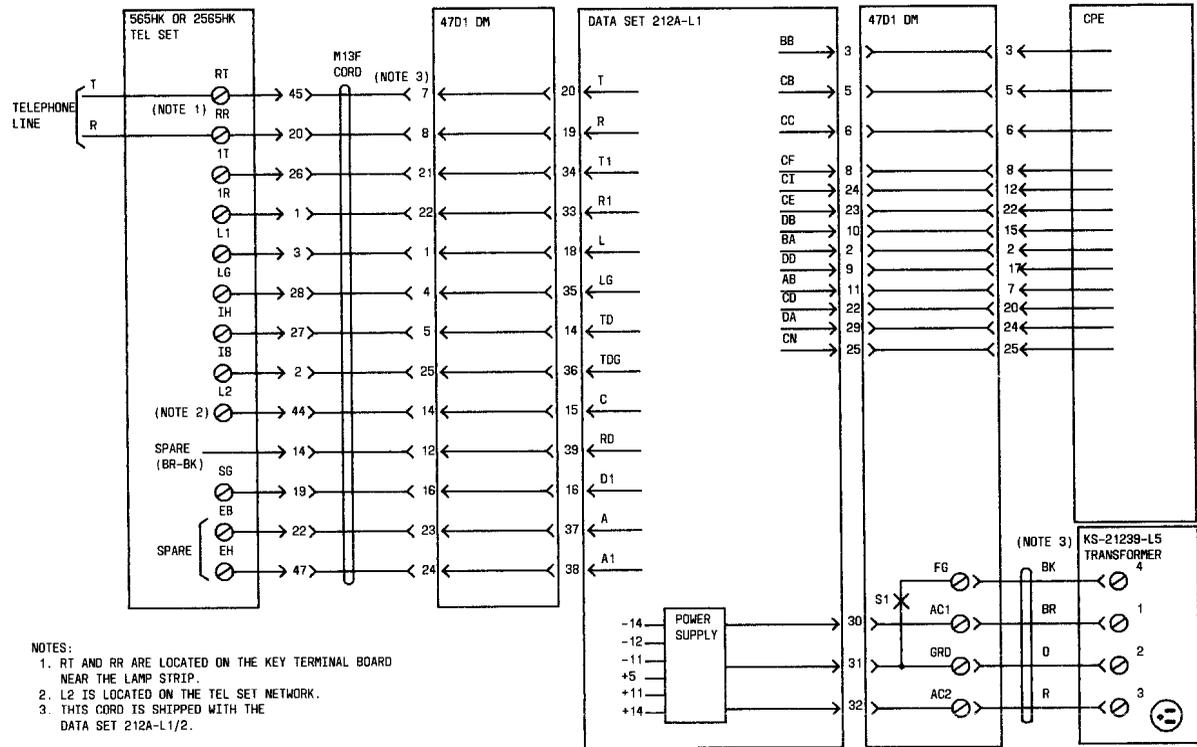

Fig. 5—Connection Wiring for DS 212A-L1/2 Without an ACU
**4.04 DS 212A-L1A/2A Without Automatic Calling Unit (ACU):** When a single DS 212A-L1A/2A is installed without an ACU, connect cables and connect tip and ring as shown in Fig. 4. Figure 5 provides detailed wiring which may be useful in troubleshooting this arrangement.